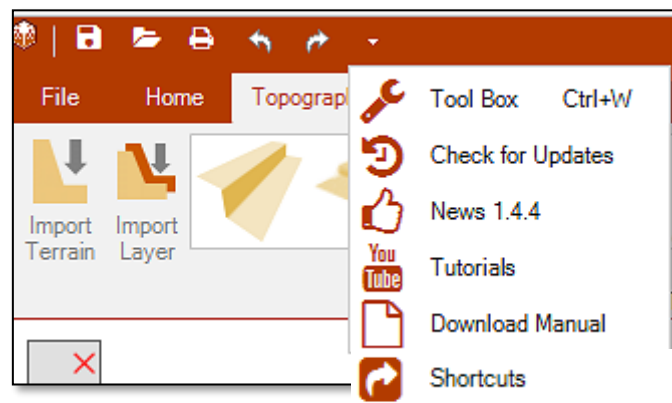

Fig. 12 - Option inside of quick access bar
- Open tool box, check for updates and news, tutorials, download the manual and see the list of shortcuts (Fig. 12).